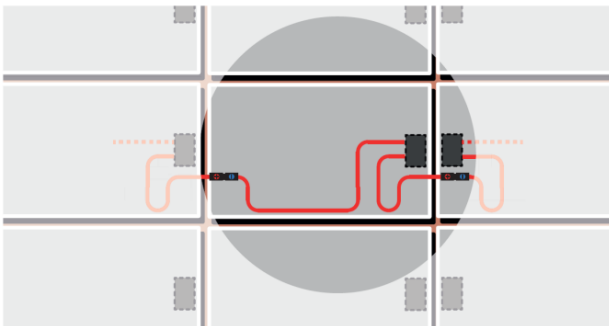

Fig. 2 U-form cables at the junction box for a horizontally mounted module
- For modules mounted horizontally, lay the cables in a U-form away from the junction box (see fig. 2).